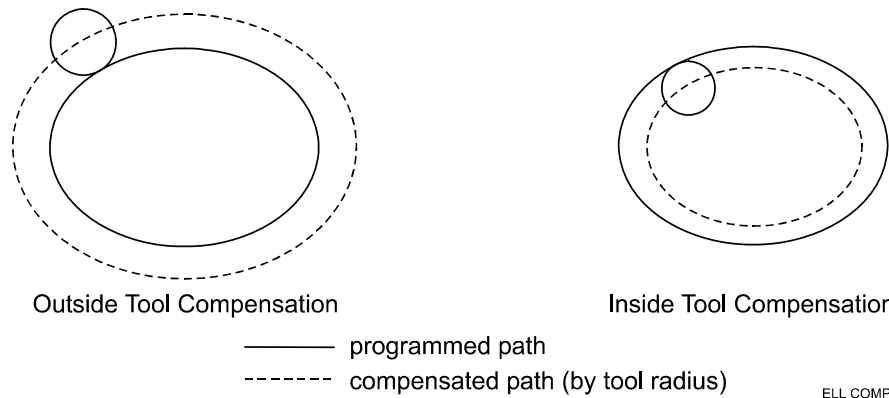

Figure 5-25, Ellipse Tool Compensation
- CompSide** Offsets tool path to the inside (**In**) or outside (**Out**) of the ellipse by the tool radius. Refer to **Figure 5-25**. If you leave the entry blank, no tool compensation is activated during the cycle. Optional.